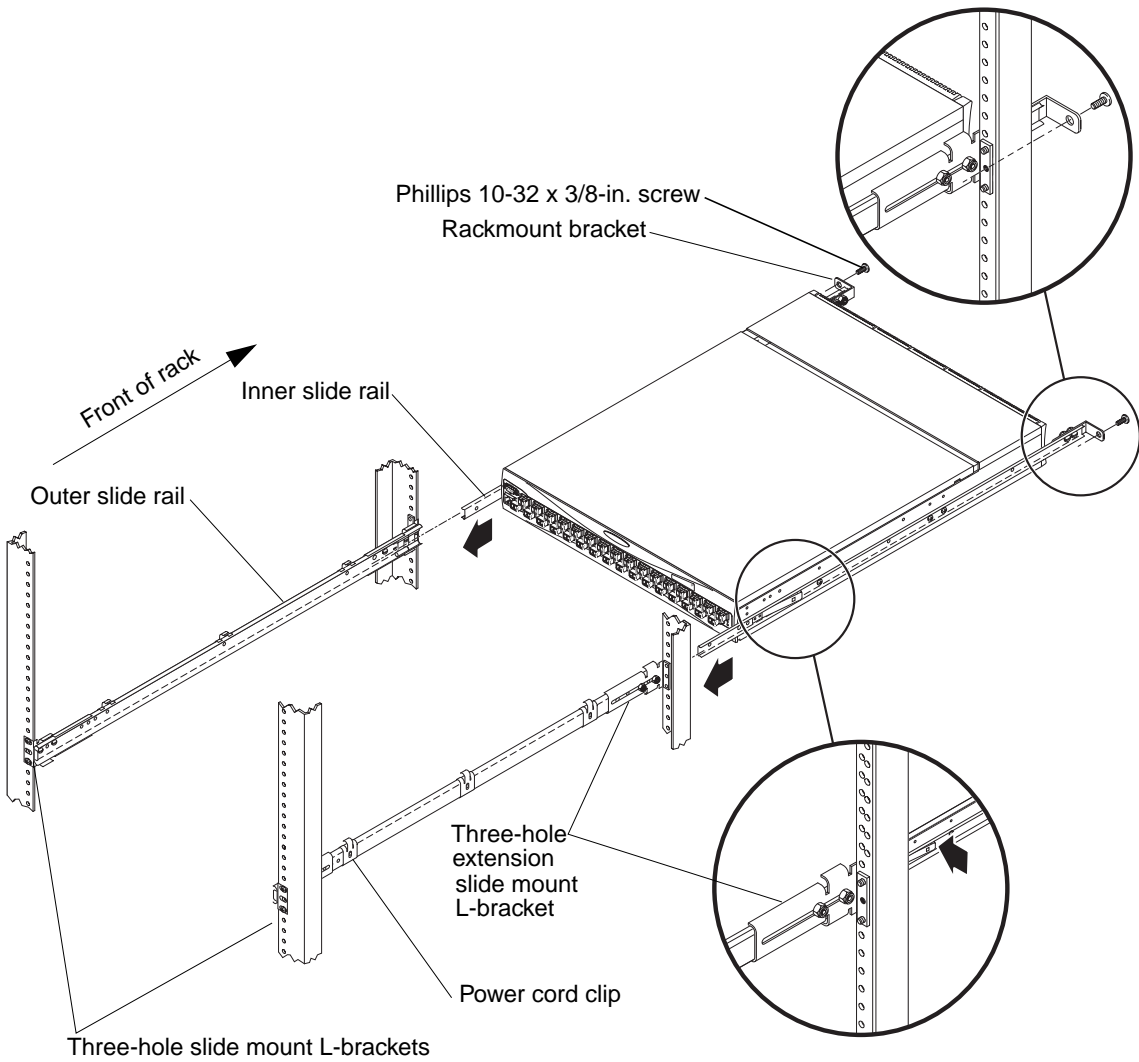

FIGURE 3-3 Brocade SilkWorm 3900 Switch and Outer Slide Rail Installation
5. **Attach two of the three-hole extension slide mount L-brackets to each outer slide rail. See FIGURE 3-3. Use two of the slotted head 8-32 x 3/8-inch screws per L-bracket, with the screw heads on the inside of the slide rails and a lock nut on the end of each screw.**
- b. **Position the outer slide rail in the rack and adjust the L-brackets to accommodate the depth of the cabinet. Refer to FIGURE 3-3.**
To allow the 3800, switch to slide out the front of the rack, orient the rail as shown in FIGURE 3-3, with the closed end of the slide rail towards the back of the rack.
- d. **Attach the L-bracket on the front end of the outer slide rail to the corresponding rack vertical rail, using two of the Phillips 10-32 x 3/8-inch screws. See FIGURE 3-3.**
- a. Position the 3900 switch next to the rack as shown in FIGURE 3-3, and insert the inner slide rails into the outer slide rails.
2. Attach the rackmount brackets to the vertical rack rails using one Phillips 10-32 x 3/8-inch screw per bracket, tightening the screws to a torque of 25 inch-pounds (28.8 cm-kgs). See FIGURE 3-3.
- a. Place the power cord clips on the outer slide rails. See FIGURE 3-3.